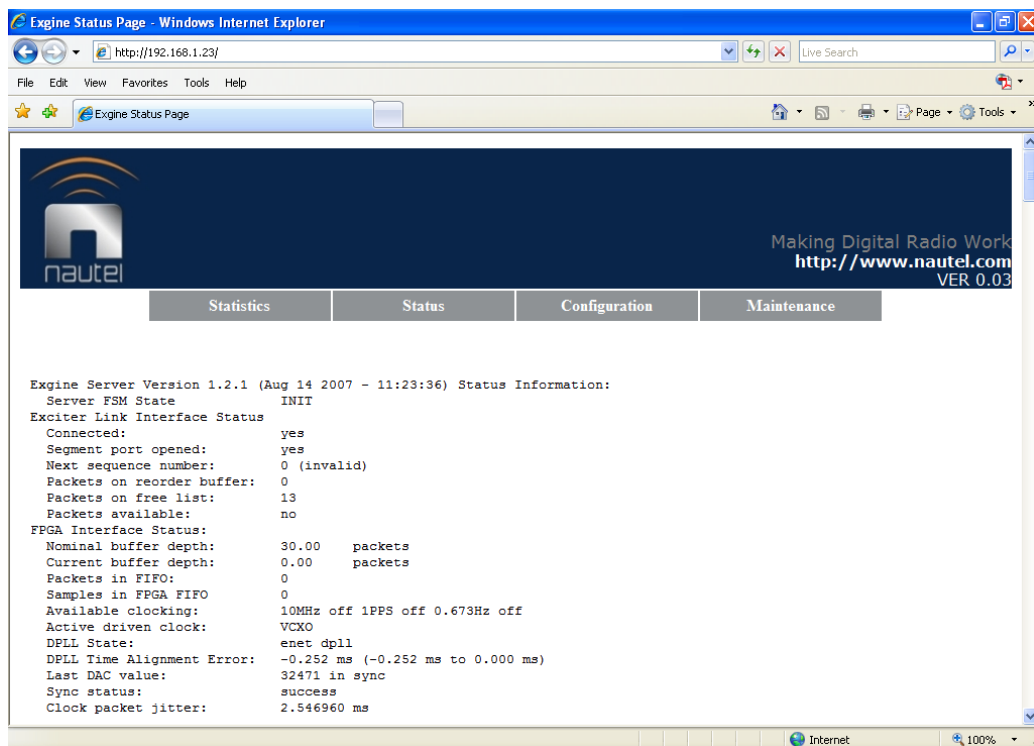

Figure 3-1: Status Page (Transmitter Site Reliable HD Transport Unit)
From the web browser's main page, click on the **Status** tab. The value of most parameters should be as shown in Figures 3-1 and 3-2.
- (a) For an all-digital (HD) transmitter, turn off transmitter power for the duration of this procedure. For a hybrid transmitter, it is permissible to continue broadcasting the analog FM portion only; however it is recommended you use a standby transmitter, if available.
- (c) Browse to the transmitter site's reliable HD transport unit using a Laptop or PC. The screen in Figure 3-1 should appear.